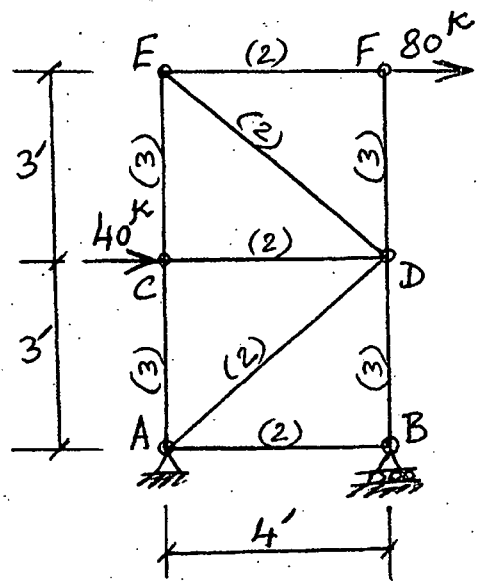

Fig. 12
13. Compute the relative displacement of joints C and F along the line joining them (Fig. 12) due to the loads shown. Cross sectional areas of members in in². are shown in parentheses alongside each member. Given: $E = 30000$ ksi. (21)